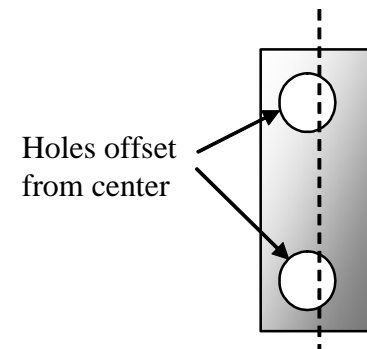

Figure 6-2
- Locate a 2-D fastener and hold it vertically as shown in Figure 6-2. Looking at a side with two holes, note that the holes are offset from the center. When you install the fasteners in the following step, be sure to position them so that the holes in the fastener are shifted in the same direction as the holes in the PC board outlines on the bottom of the board.